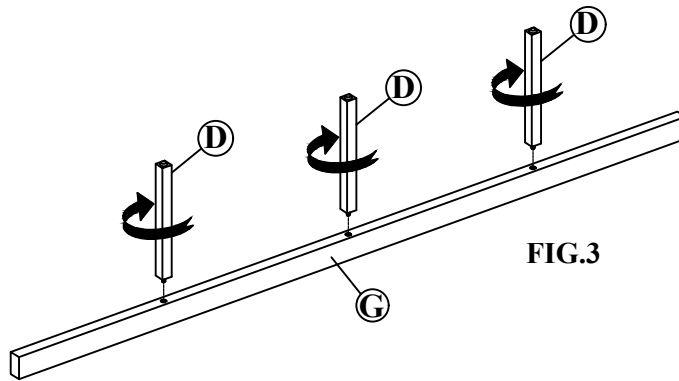

FIG.3
STEP 3: Attach the Support Legs (D) to Slat Support Bar (G) as shown in FIG.3